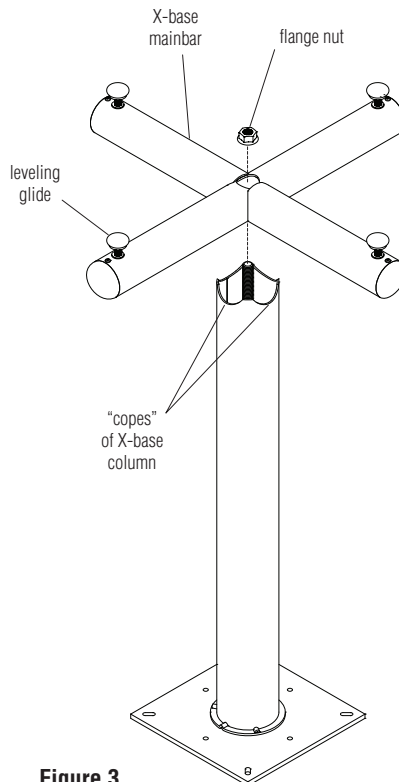

Figure 3
5. Position the X-leg mainbar over the X-leg column, aligning the center hole in the mainbar with the threaded rod and set mainbar down until it rests into the copes in the X-leg column. Make sure that the leveling glides in the mainbar are facing away from the mounting plate, as illustrated (Figure 3).